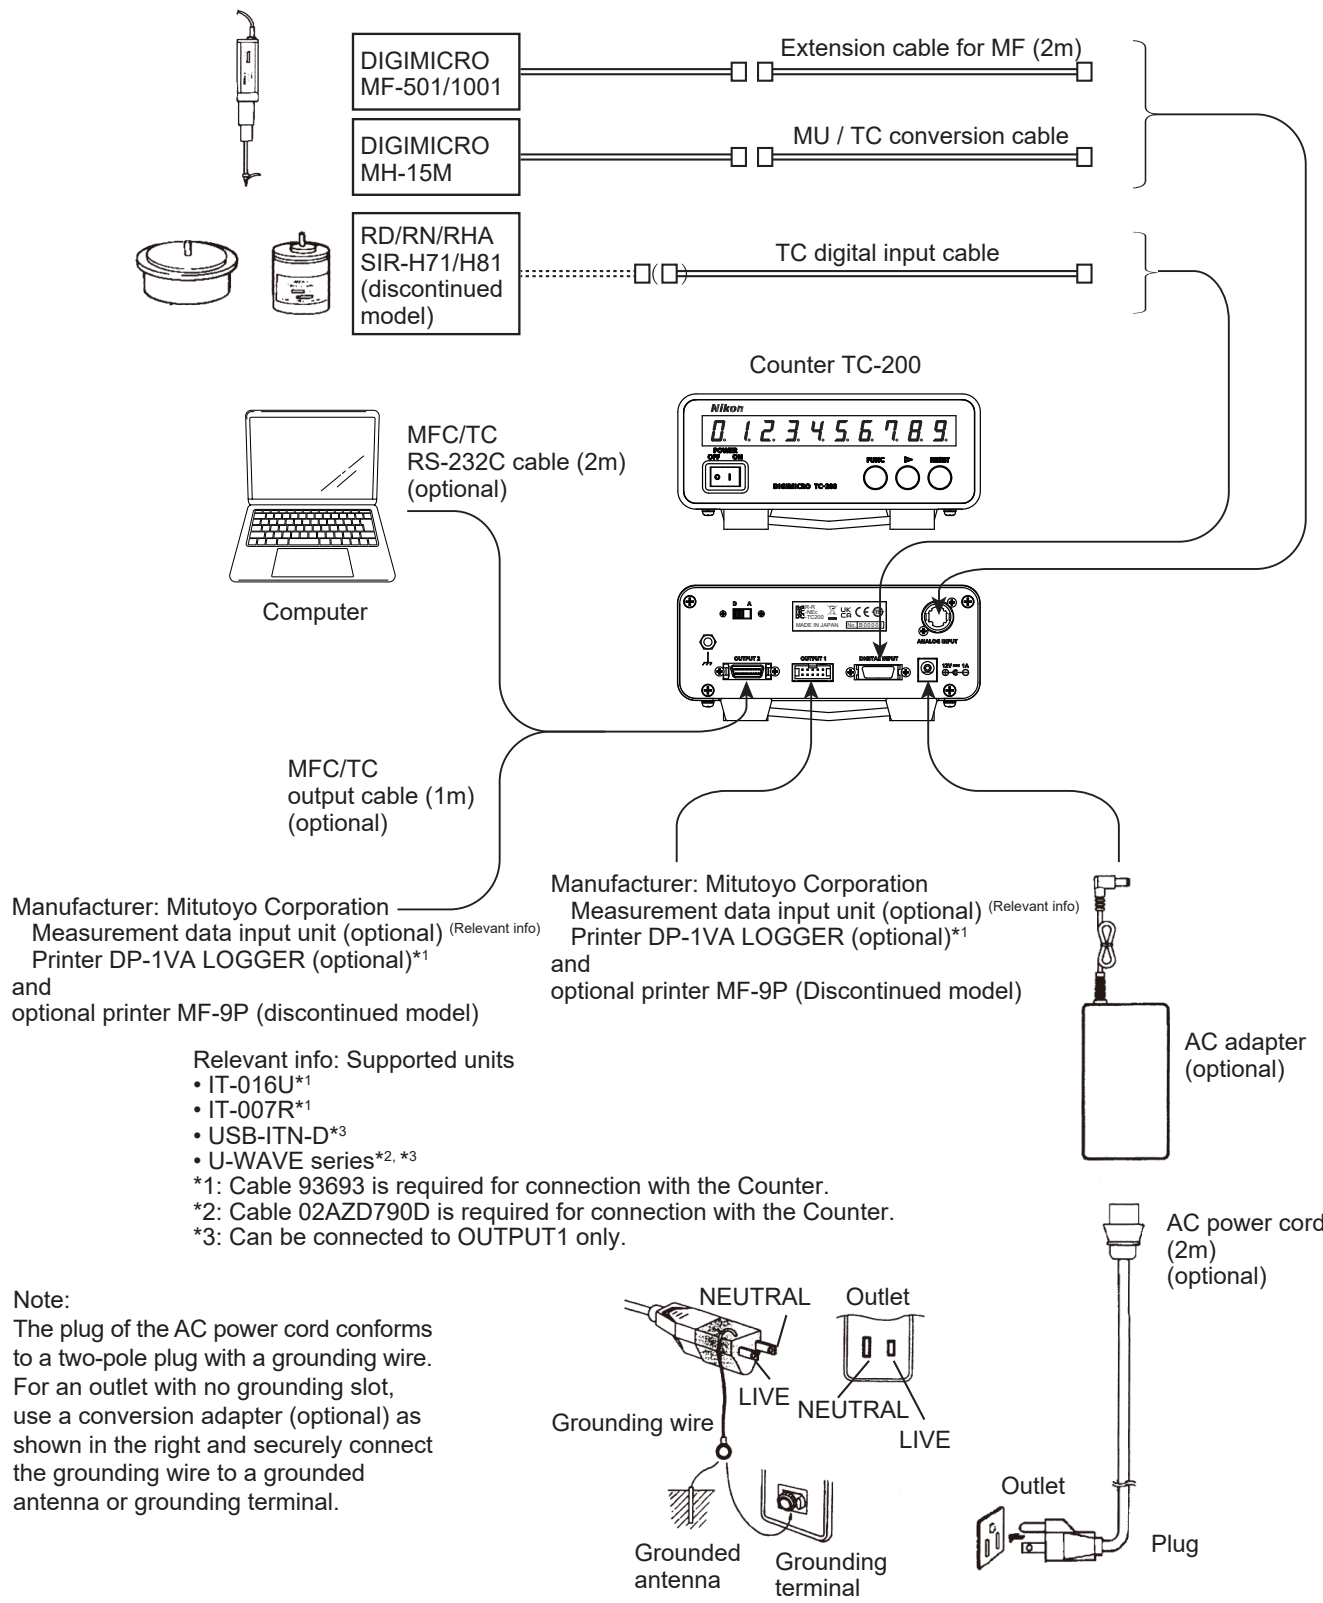

Figure 1
- Do not connect devices other than those shown in Figure 1 to the connectors on the rear panel of this product.
(1) Connecting an encoder
Connect the encoders (such as the DIGIMICRO and rotary encoder) to the product by following the system configuration diagram in Figure 1 on page 1.
Make sure the power switch of the product is off (position "o") before plugging the AC adapter into the input connector and AC power cord into an appropriate outlet. Be sure to ground the AC power cord. (See Figure 1 on page 1.)